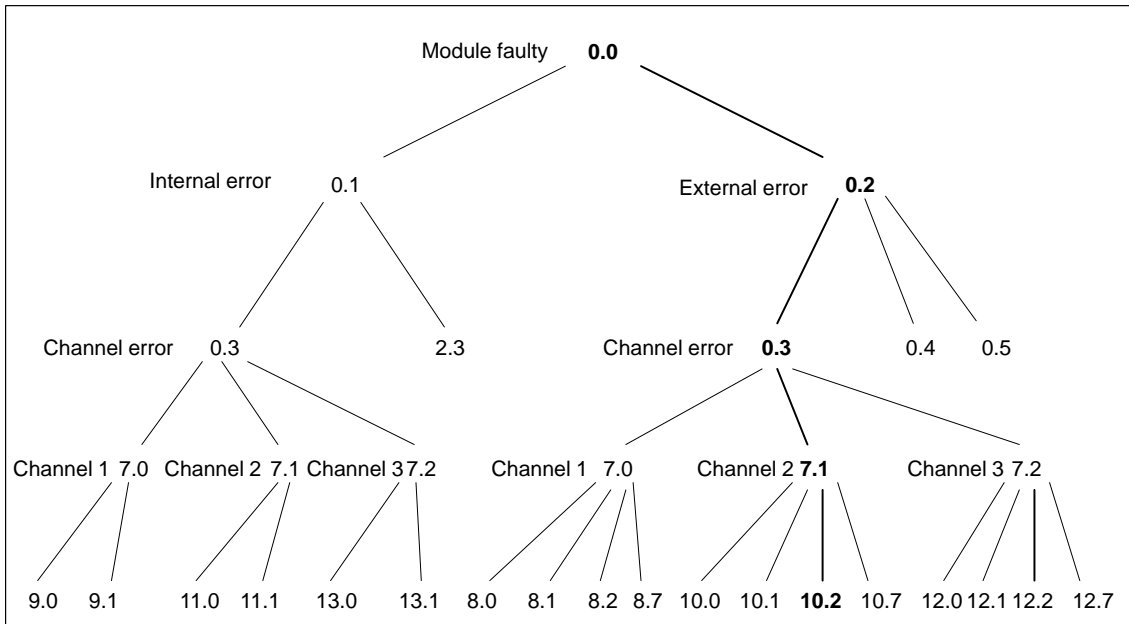

Figure 11-2 Diagnostic Chart: Bits in the Channel DBs from Byte 72 Onwards (DIAGNOSTIC_INT_INFO)
- With the aid of the diagnostic chart shown in Figure 11-2 you can see the relationship between the separate bits.
7.0	Channel 1 faulty - more precise analysis is possible (see Figure 11-2)
7.1	Channel 2 faulty - more precise analysis is possible (see Figure 11-2)
7.1	Channel 3 faulty - more precise analysis is possible (see Figure 11-2)